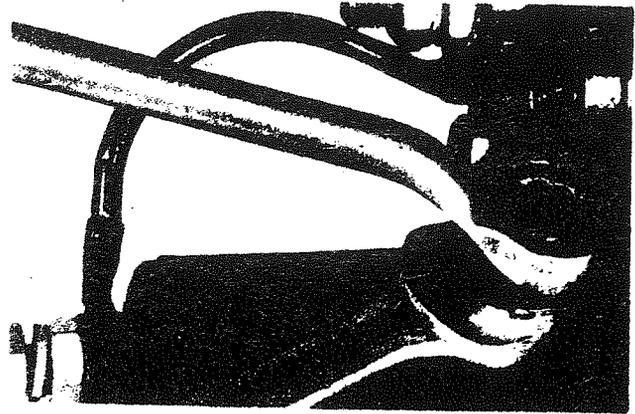

Figure 3
**CAUTION:** Use an open wrench to hold the bottom nut while removing the top nut. Failure to do this may damage the field coil. Figure 3.